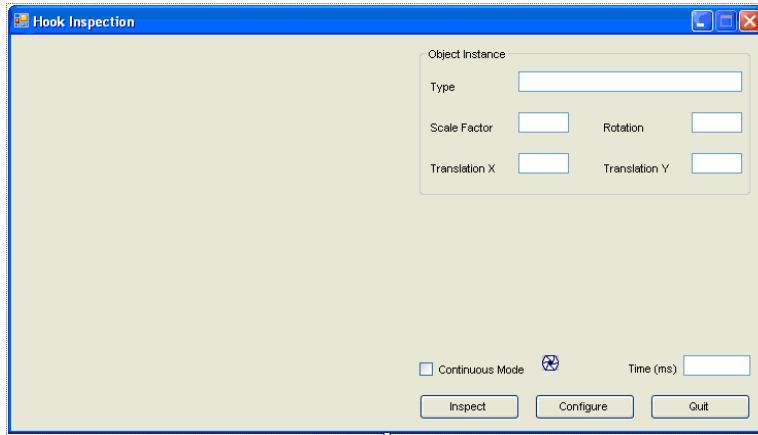

Figure 96 Resized C# Form for Tutorial 2
1. Start by extending the form. Set the width to approximately 735 and the height to approximately 420. Reorganize the text boxes and buttons to look like the form in Figure 96.